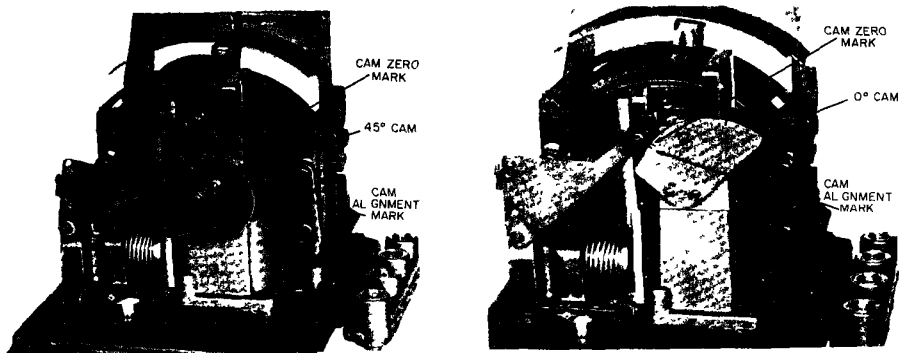

FIGURE 11 - Positioning Cam on Gain Control Mechanism
alignment line (first line on cam) to a point directly below cam follower arm roller. Lock cam in this position (see Figure 11).
9. Remove 45° gain arm rotation cam from gain control assembly and install 10° gain arm rotation cam. Rotate cam to place position alignment line (first line on cam) to a point directly below cam follower arm roller. Lock cam in this position. (Refer to Figure 11.)